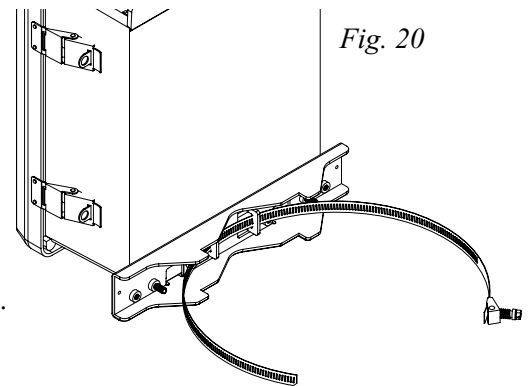

*Fig. 21 - 2" to 8" (50.8mm to 203.2mm)
6. Tighten the straps of the bottom bracket down by sliding the open end of the strap through the locking mechanism on the strap, then tighten screw with flat head screwdriver or 5/16" hex socket driver (*Fig. 21/21a, pg. 10*).